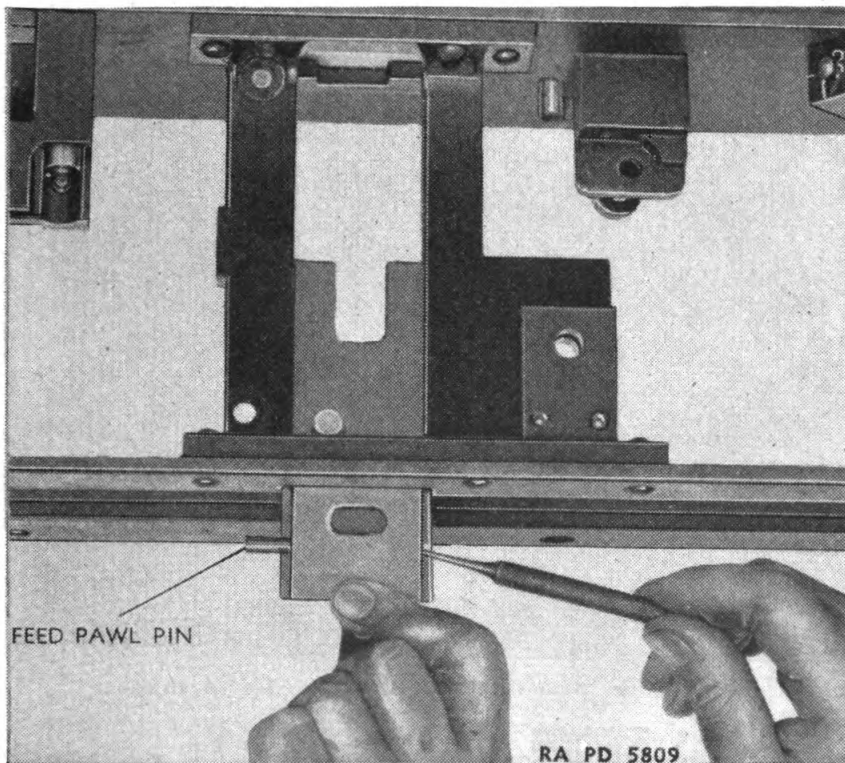

FIGURE 69.—Removal of feed slide assembly.
*f. Feed slide and feed pawl assembly.*—(1) Push feed slide and feed pawl assembly to left.
(2) Push feed pawl pin from the two parts by means of a piece of wire (fig. 69).
(3) Catch feed pawl assembly.
(4) Remove feed slide from its slideway.
*g. Cartridge feeder holding and stop pawl assemblies.*—(1) Remove cotter pins from cartridge feeder holding and stop pawl nuts.